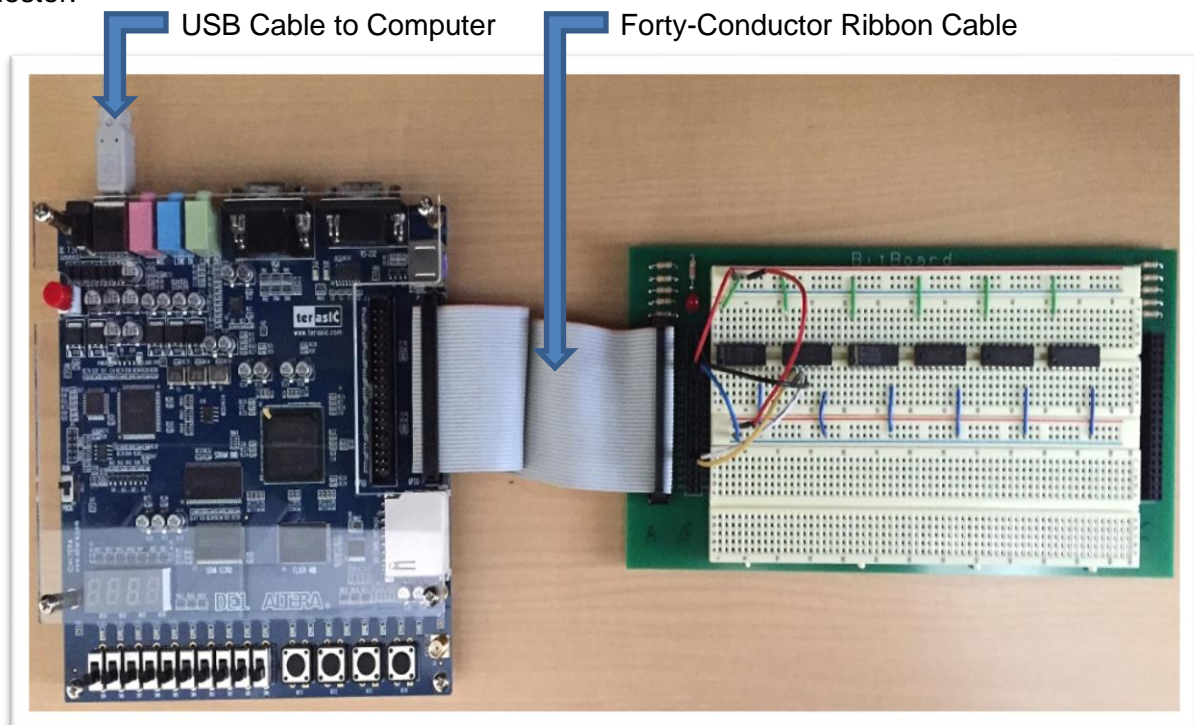

Figure 3 – DE1 Connected to The BitBoard.
An Altera DE1 Development and Education Board, or similar device, can be used to conveniently provide power and input/output for The BitBoard via a ribbon cable connection as shown in Figure 3. DE1s used for this purpose are said to be operating in the *BitBoard mode* and will always enter the mode on power up. DE1s may also be operated in the *FPGA mode* as will be done later in the semester.
1.1 Connect the DE1 to the BitBoard using the flat cable as shown in Figure 3.